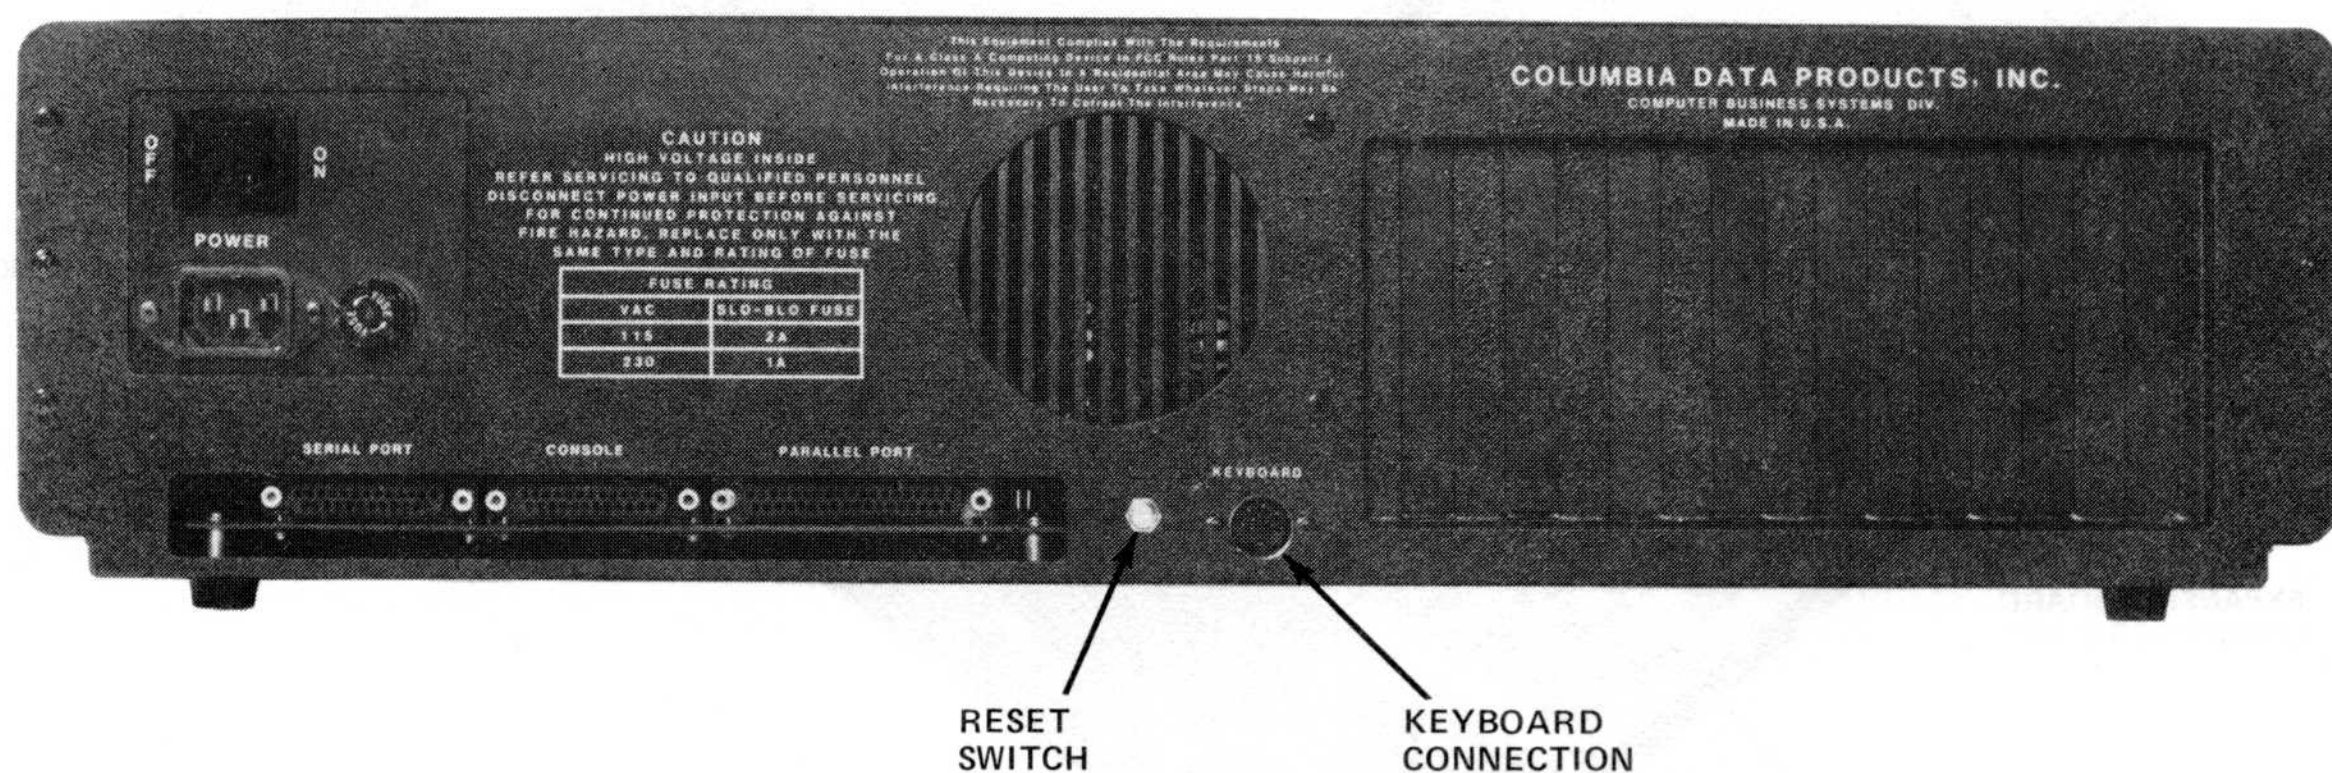
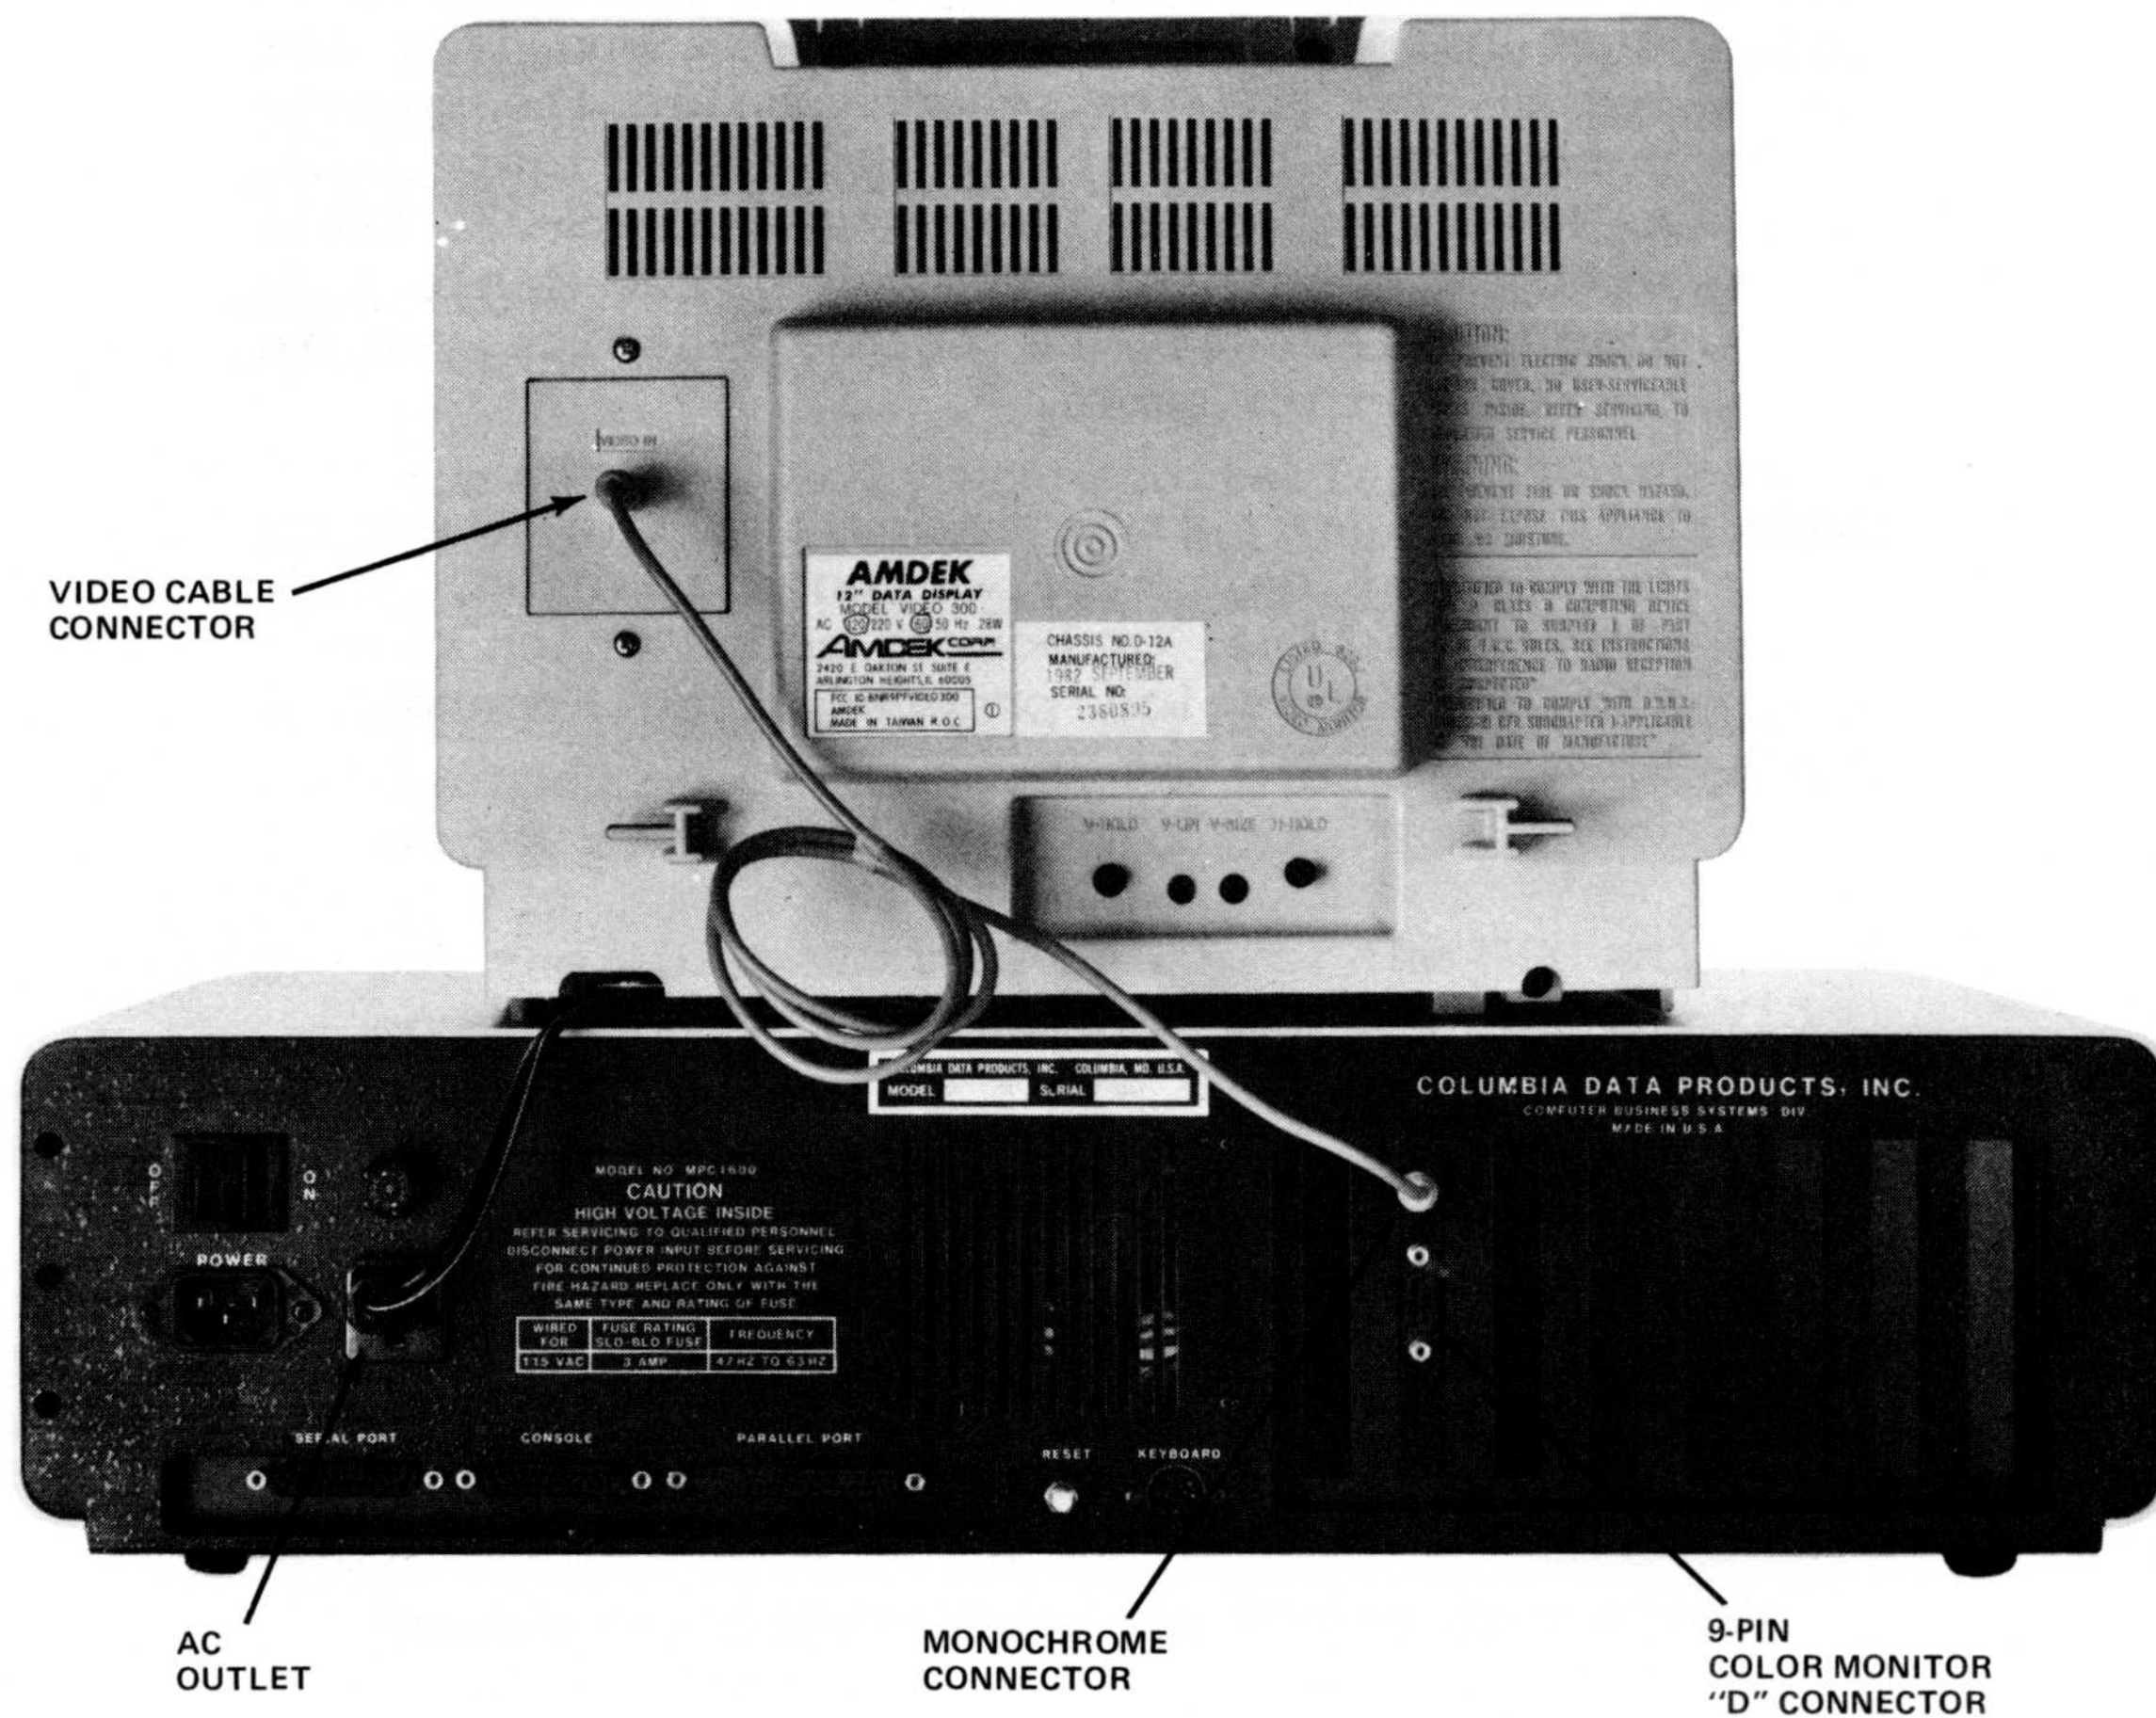

Figure 1-3. Unit Back Panel
Figure 2-1. MPC System Connections
The MPC is a modular desktop unit measuring 22.5 inches wide by 5 inches high by 15 inches deep. Weighing approximately 25 pounds, it consists of the following basic parts: a master printed circuit board, eight expansion/peripheral slots, two independent disk drive assemblies, and a power supply. Additionally, the system is configured for a detachable keyboard and separate monitor or a dumb terminal. The external configurations such as the keyboard are customer options to suit their particular need. Connections for all external devices are located on the back panel (see Figure 1-3).
- B. Set the Video Monitor on top of the MPC unit, and connect the video cable to the back of the Video Monitor, and to the video board connection on the back of the MPC (Figure 1-3).
- C. Connect the keyboard to the MPC using the coiled stretch cord (similar to a telephone cord). The telephone-like connector inserts into the bottom of the keyboard and the six prong connector inserts into the back of the MPC (Figure 1-3).
- E. Prior to plugging directly into a well grounded 3-prong outlet, check the back of your MPC for the proper voltage the machine is set for (example: Model 1600-1/110, the 110 indicates the proper voltage). (See Figure 2-1.) Make sure the ON/OFF switch (Figure 1-3) is in the OFF position; plug the power cord from the MPC into the appropriate outlet (110VAC/60 Hz or 220VAC/50Hz).
Note: If the MPC is used with a serial display terminal not provided by CDP, a reversing cable must be used. If so, plug one end into the serial port and the other end into the console port at the back of the MPC (see Figure 1-3). A "Reversing" cable is a standard RS-232 cable with certain pins reversed. See Table A-6. Your dealer will be able to assist you in obtaining this cable.